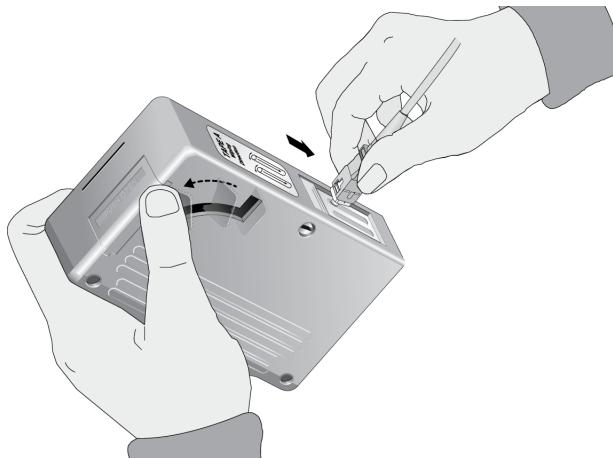

Figure 28. Rubbing the Ferrule Tip on the Cleaning Surface
1. With one hand, hold the cartridge cleaner and push the lever on the cleaning cartridge in the direction of the arrow to expose the cleaning surface, as shown in Figure 28.
2. Place the ferrule tip on the exposed cleaning surface and rub the ferrule in a downward direction, as shown in Figure 28.
1. Insert the swab into the adapter as shown in Figure 28 on page 138 and rub the ferrule tip with the swab.